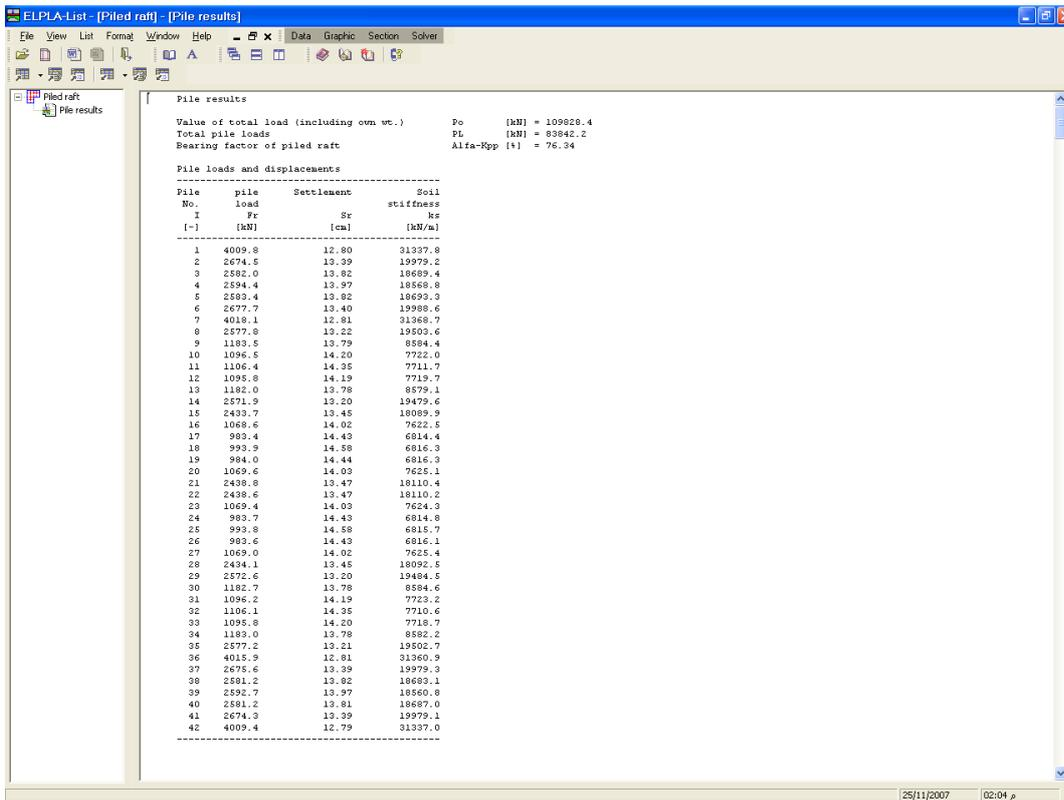

Figure 12-43 List of pile results
- Click "OK" button. The pile results are now listed on the screen (Figure 12-43)